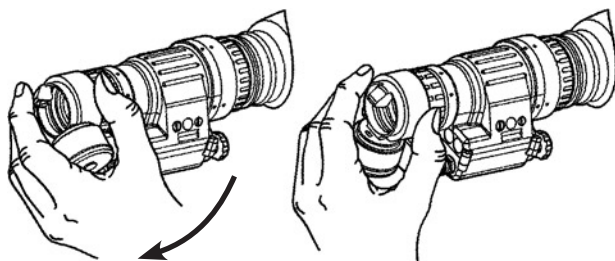

Figure 3-16. Compass Installation
(4) Press the compass onto the objective lens at an angle using your left hand. Slowly turn the compass counterclockwise until it is in the vertical position (with compass illumination button pointing down). See Figure 3-16.
(5) Ensure that the compass fits tightly to the objective lens.
(6) Refer to paragraph 3.4.6 for operation of the compass.